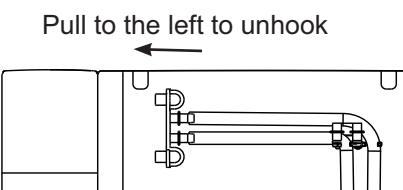

Figure 1
- Disconnect both tubes from the back of the machine / side tank base and drape them into your sink, a bowl, a bucket, or a vessel that can hold at least 0.5 Gal / 2 Liters of water. (Figure 1 and 2)